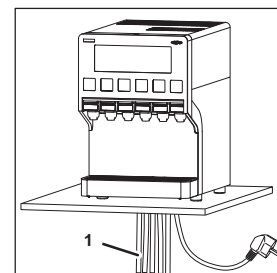

Fig. 14
1. Disconnect the basic ingredient tubes/beverage tubes (Fig. 14/1) from the respective point on the unit.